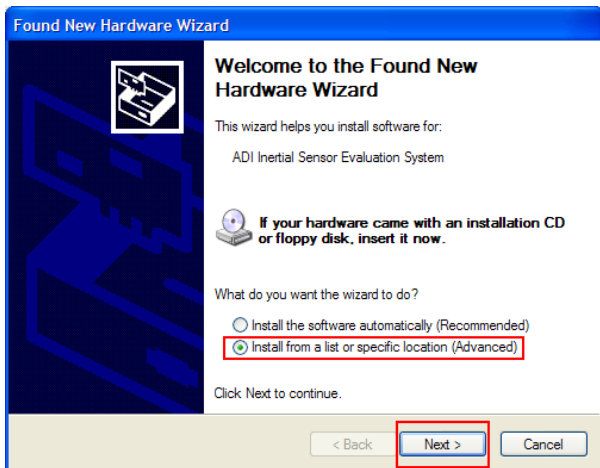

Figure 2. Found New Hardware Prompt
2. If prompted to install drivers again, click **Install from a list or specific location (Advanced)**, see Figure 2.